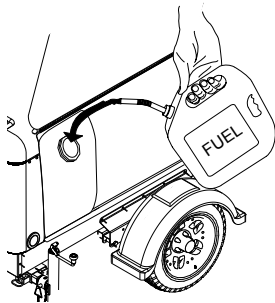

Figure 9. Adding Fuel
2. Lift the light tower access door (Figure 9), control panel side. Set the door support latch in place to keep the door open (up).